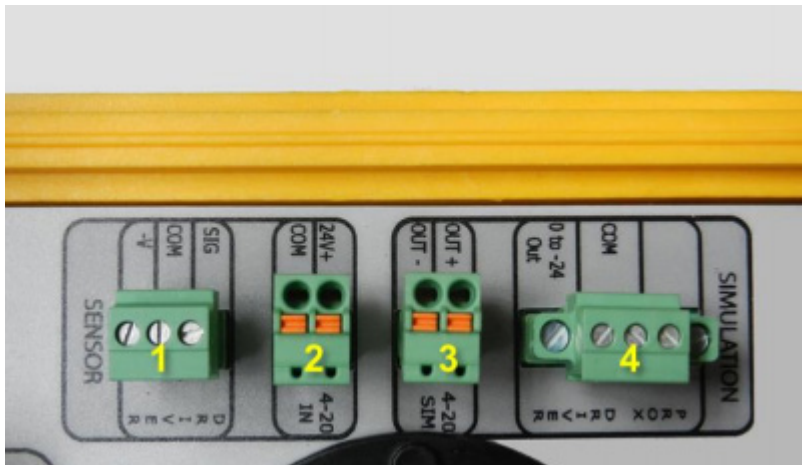

Figure 36. Connect the sensor to connector "2"
- 2. Connect the sensor to the **4-20 Input** (the connector labeled "2" in Figure 36):